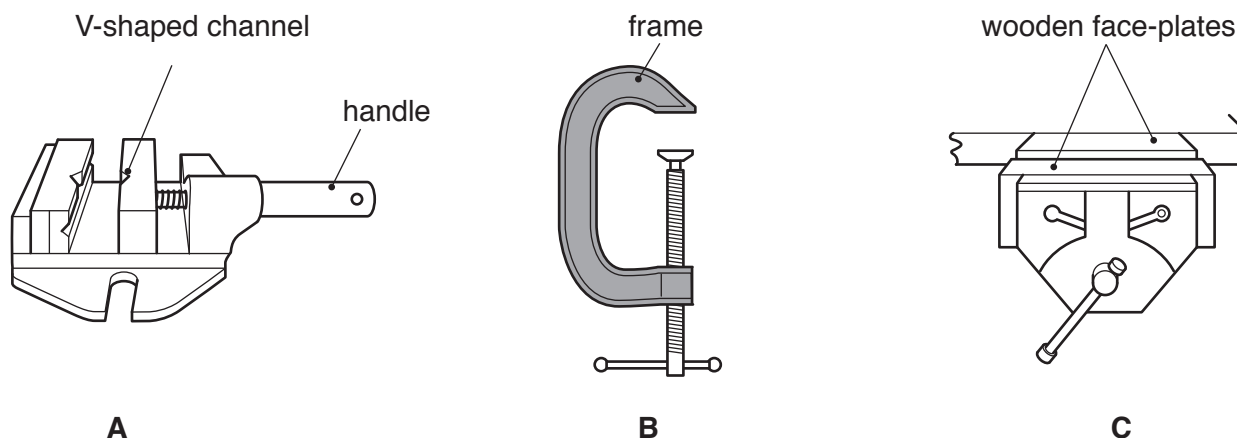

Fig. 4
11 Three different holding tools are shown in Fig. 4.
- (a) Name the holding tools shown in Fig. 4 and state a specific use for each. [6]